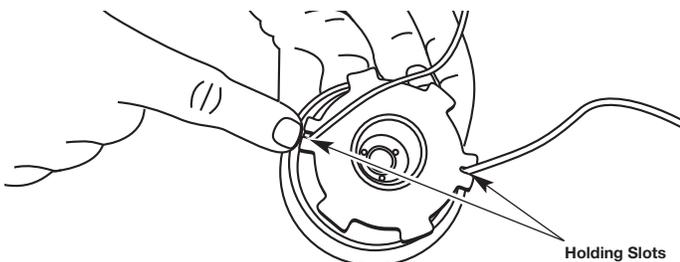

Fig. 33
- Insert the ends of the line into the two holding slots (Fig. 33).